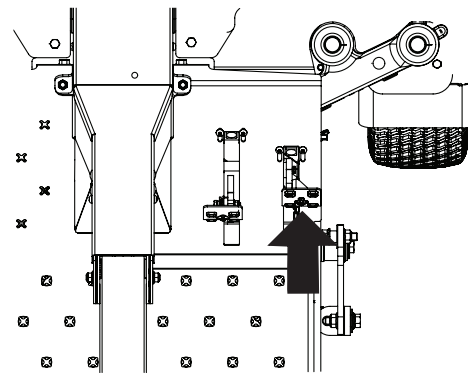

Figure 25
1. Slowly push the reverse drive pedal forward. The mower will start to move in the reverse direction. See Figure 25.